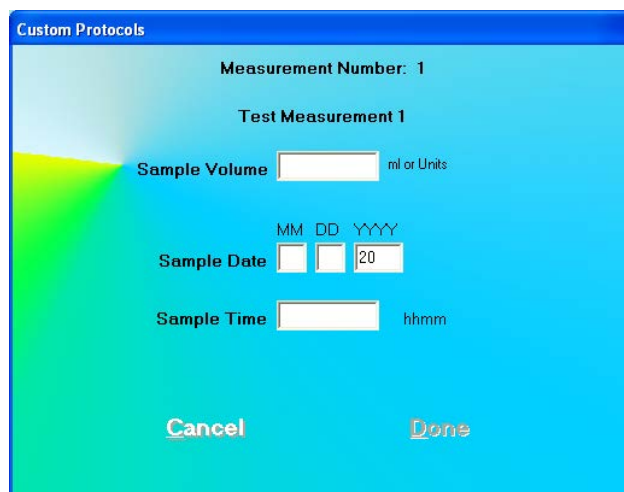

Figure 16-14
2. To begin the measurements, click the  button or press *ALT+C*. The Screen appears as shown in Figure 16-14.
3. If one or more options were checked for the current measurement, the Measurement Input Screen will be shown as in Figure 16-14. In the example, both Actual Sample Volume and Sample Date and Time have been selected for Measurement Number 1.